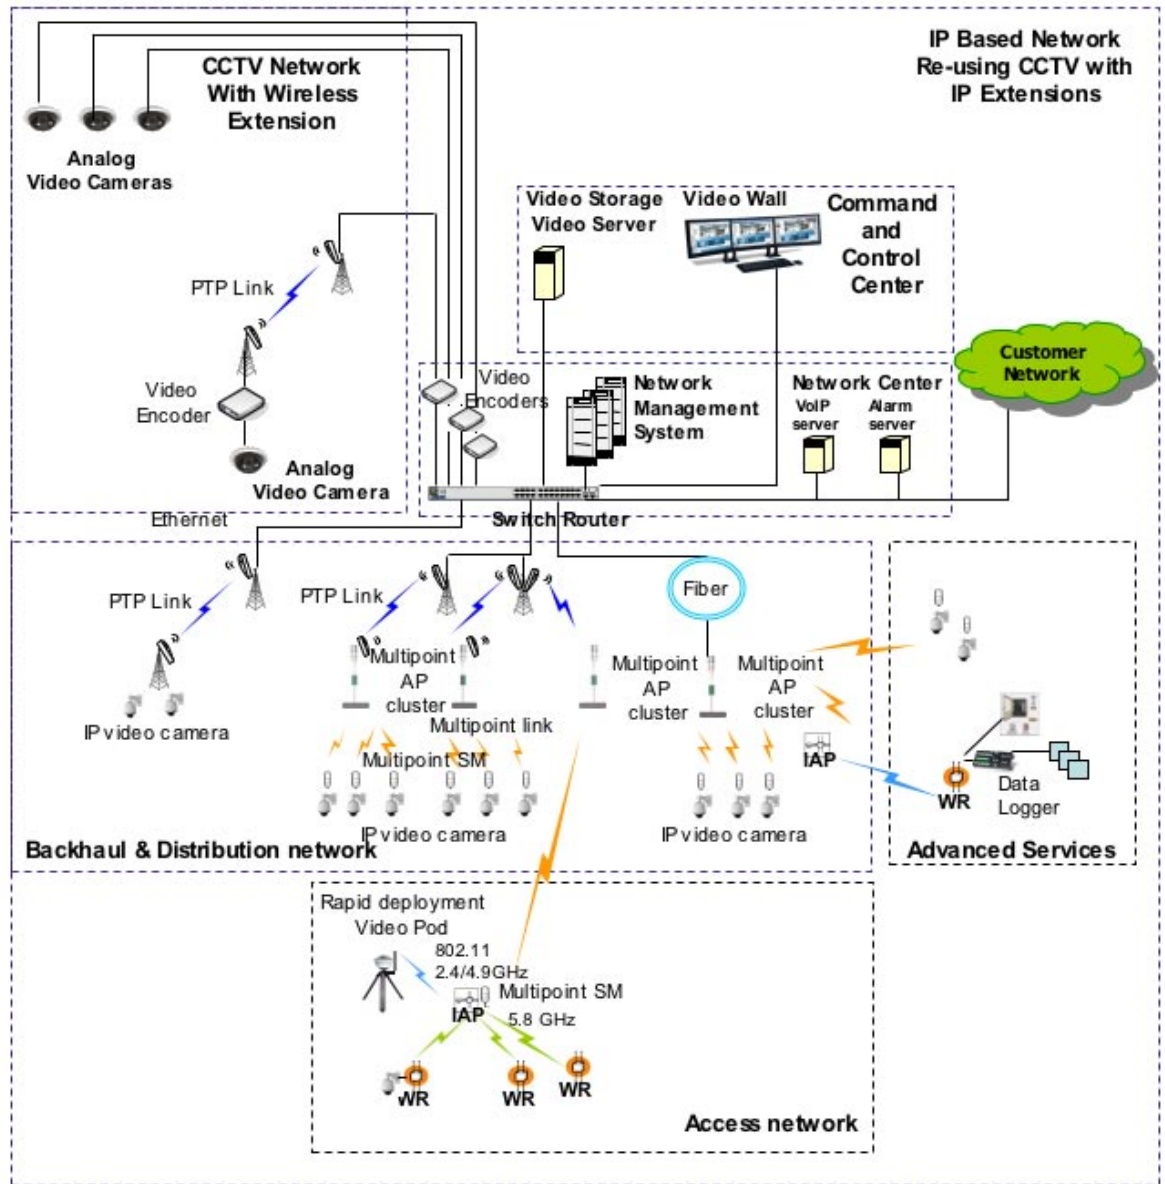

Figure 3. Leveraging the Wireless Backhaul Network for Advanced VoIP & Alarm Gathering Services
**Video Beyond Surveillance.** As shown in Figure 3, wireless IP systems can be used to not only enable video surveillance, but also to provide a common network with bandwidth for Voice over IP (VoIP) and data transfer. These systems enable network operators to perform video analytics, while also integrating data from remote alarm sensors and data collection and logging systems. This provides the network operator with the latest information and trend data to understand the complete operation of the business.
**Wireless Data Transport.** The IP network—supporting a variety of video surveillance solutions such as PTP, PMP and Mesh networks—can also be leveraged to transport data for a wide variety of applications. For example, the PTP, PMP and Mesh infrastructure can supply connectivity for video surveillance cameras to collect images while also providing connectivity for VoIP applications. In these cases, as shown in Figure 3, a VoIP server will also be needed at the Network Center to support VoIP capability.